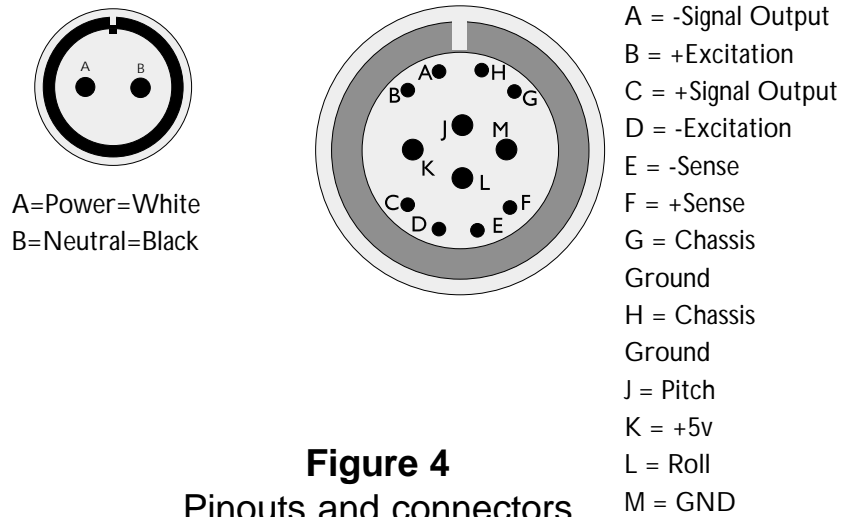

Figure 4
- ☐ Attach the 12-pin connector of the signal cable to J1 on the back of the indicator. Note the alignment pin and slot in the connectors. Plug them together and tighten the collar. See Figure 4 for pinout assignments.
- ☐ Plug the 2-conductor power cable into J6 on the back of the indicator. See Figure 4 for pinout assignments.